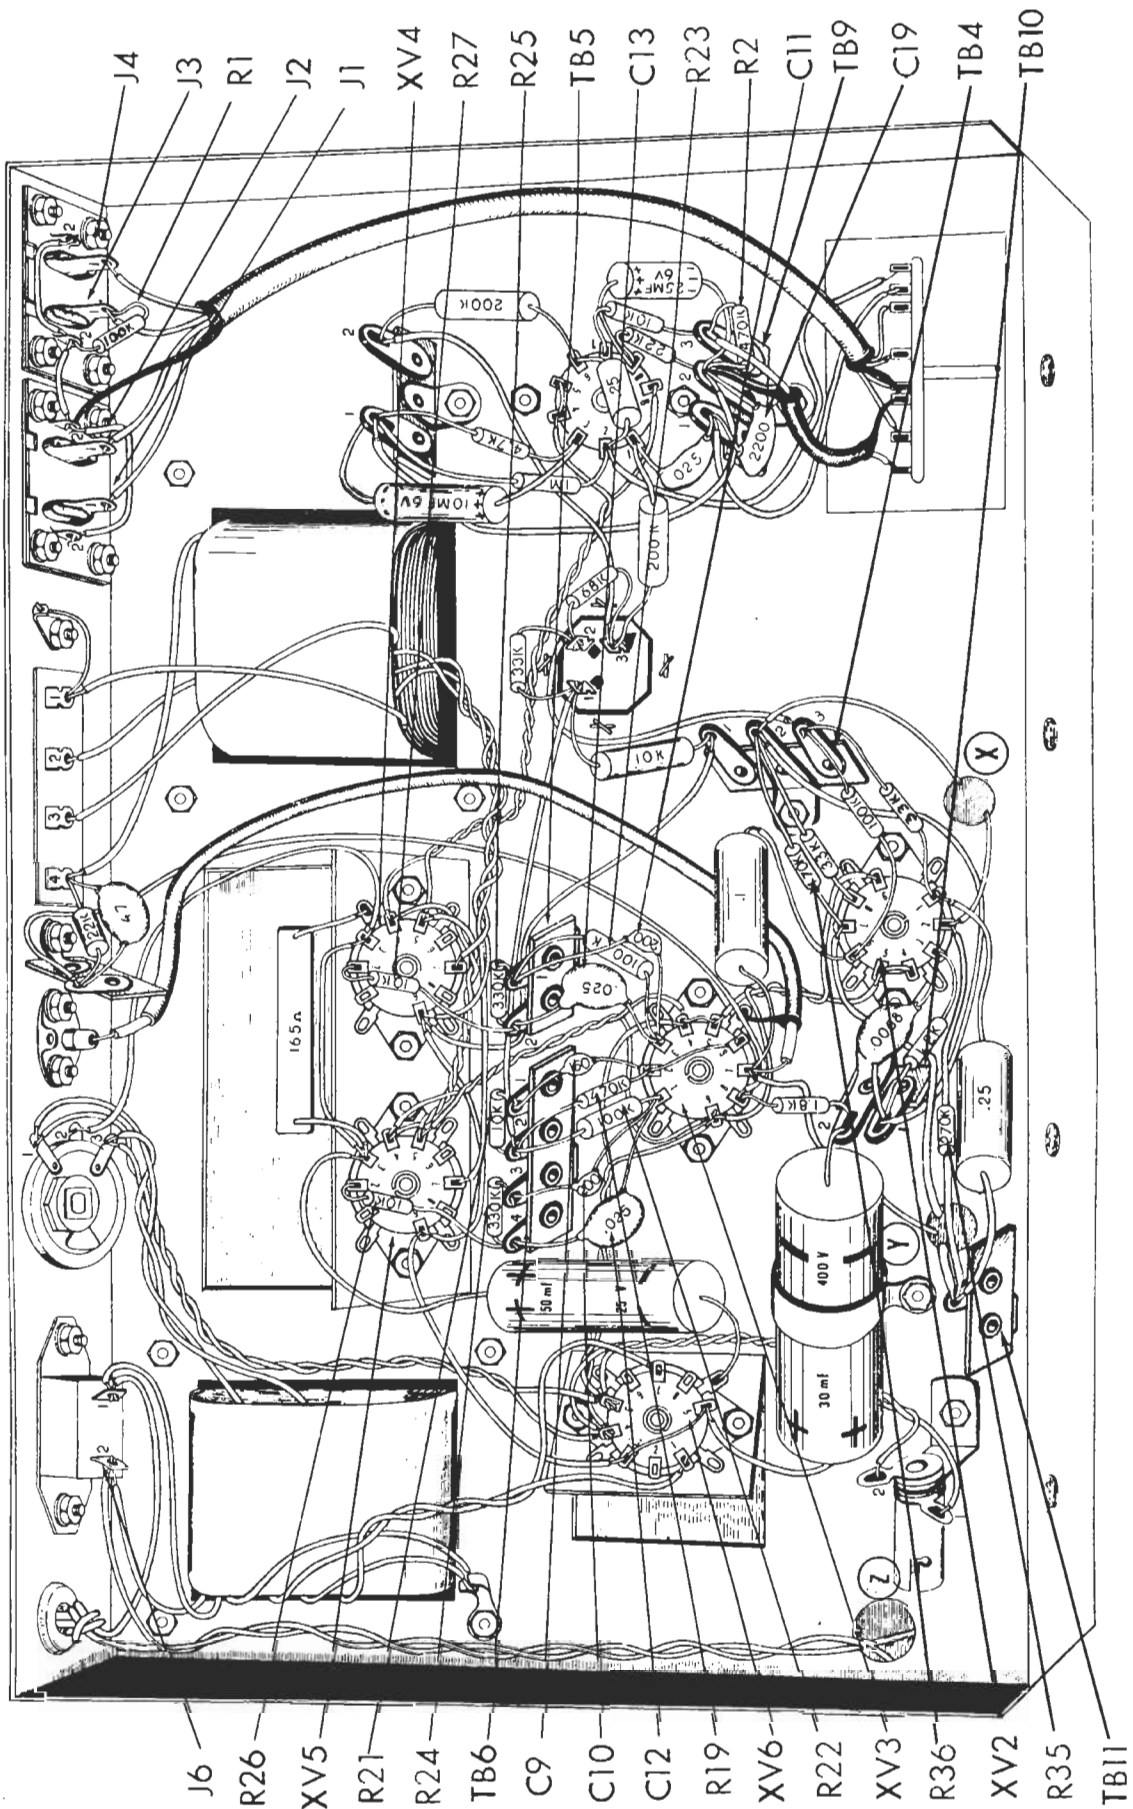

Fig. 6
1. () Fig. 6. Connect a 1" piece of bare wire from XV3-6 (S) to XV3-2 (C).
2. () Fig. 6. Connect a 100K Ω (brown, black, yellow, gold) 5% resistor, R23, from XV3-3 (C) to TB5-1 (C). Cut both leads to 3/4".
3. () Fig. 6. Connect a 200 mfd disc ceramic capacitor, C11, from XV3-3 (C) to TB5-1 (C). Cut both leads to 1".
4. () Fig. 6. Connect a .025 mfd disc ceramic capacitor, C13, from XV3-3 (S) to TB5-2 (C). Cut both leads to 3/4".
5. () Fig. 6. Connect a 470K Ω (yellow, violet, yellow, silver) resistor, R19, from XV3-2 (C) to TB6-2 (C). Cut both leads to 3/4".
6. () Fig. 6. Connect a 100K Ω (brown, black, yellow, gold) 5% resistor, R22, from XV3-1 (C) to TB6-2 (C). Cut both leads to 3/4".
7. () Fig. 6. Connect a 150 mfd disc ceramic capacitor, C9, from XV3-2 (S) to TB6-1 (C). Cut both leads to 3/4".
8. () Fig. 6. Connect a .025 mfd disc ceramic capacitor, C12, from XV3-1 (C) to TB6-4 (C). Cut both leads to 3/4".
9. () Fig. 6. Connect a 200 mfd disc ceramic capacitor, C10, from XV3-1 (S) to TB6-3 (C). Cut both leads to 3/4".
10. () Fig. 6. Connect a 330K Ω (orange, orange, yellow, silver) resistor, R25, from TB5-1 (S) to TB5-2 (C). Cut both leads to 1/2". Push the resistor down towards the chassis.
11. () Fig. 6. Connect a 330K Ω (orange, orange, yellow, silver) resistor, R24, from TB6-3 (S) to TB6-4 (C). Cut both leads to 1/2". Push the resistor down towards the chassis.
12. () Fig. 6. Connect a 10K Ω (brown, black, orange, silver) resistor, R21, from TB6-1 (S) to TB6-2 (S). Cut both leads to 1/2". Push the resistor down towards the chassis.
13. () Fig. 6. Connect a 10K Ω (brown, black, orange, silver) resistor, R26, from TB6-4 (S) to XV5-2 (S). Cut both leads to 3/4". Run resistor over pin 8 of XV5 without touching pin.
14. () Fig. 6. Connect a 10K Ω (brown, black, orange, silver) resistor, R27, from TB5-2 (S) to XV4-2 (S). Cut both leads to 3/4". Run resistor over pin 8 of XV4 without touching pin.
15. () Fig. 6. Run a 1 1/2" piece of bare wire covered with 1" of spaghetti from J1-2 (S) to J2-2 (C). Run an identical wire from J3-2 (C) to J4-2 (S). Run a 1" piece of bare wire covered with 1/2" of spaghetti from J3-2 (C) to J2-2 (C). Be careful not to touch any mounting screw or the bare chassis with the bare wire.
16. () Fig. 6. Connect a 100K Ω (brown, black, yellow, silver) resistor, R1, from J3-1 (C) to J3-2 (S).
17. () Fig. 6. Run the four conductor shielded cable from rectangular hole under S1 along the chassis as shown. Cut the outer insulation back 1 1/2". Unwrap the metal shield and twist the shielded strands. Cut the metal shield to 3/4" and the red and orange leads to 1". Connect the brown lead to J1-1 (S), the red lead to J2-1 (S), the orange lead to J3-1 (S) and the yellow lead to J4-1 (S). Connect shield to J2-2 (S).
18. () Fig. 6. Strip the outer insulation of the single conductor cable (passing through the rectangular hole under S1) back 3/4". Unwrap the shield strands and twist shield strands together. Strip the inner conductor back 1/4". Connect the inner conductor to TB9-3 (C) and the outer shield to TB9-2 (C).
19. () Fig. 6. Connect the yellow lead from the rectangular hole under S1 to XV1-2 (S) and the green lead from the same hole to TB9-1 (C).
20. () Fig. 6. Connect a 470K Ω (yellow, violet, yellow, silver) resistor, R2, from TB9-3 (S) to TB9-2 (C).
21. () Fig. 6. Connect a 2200 mfd disc capacitor, C19, from TB9-2 (S) to TB9-1 (S). Cut both leads to 3/4".
22. () Fig. 6. Connect the green lead from hole "X" to XV2-2 (C) and the black lead to TB4-2 (C).
23. () Fig. 6. Connect the green lead from hole "Y" to XV2-7 (C) and the yellow lead from hole "Y" to XV3-7 (S).
24. () Fig. 6. Push the line cord through the grommet near J6 at the rear of the chassis. Tie a knot on the inside of the chassis 8" from the tinned end of the line cord. Split the two leads apart until the knot. Cut one lead to 3" and connect to J6-1 (S).
25. () Fig. 6. Connect one end of a 10" brown lead to J6-2 (S). Twist this lead with the remaining lead from the line cord and dress as shown. Push both leads through hole "Z".
26. () Fig. 6. Connect the line cord lead from hole "Z" to S2-2 (S) and the brown lead to S2-1 (S). See Fig. 5.
27. () Fig. 6. Cut both leads on a 470K Ω (yellow, violet, yellow, silver) resistor, R36, to 3/4". Connect from XV2-7 (S) to TB4-2 (S).
28. () Fig. 6. Cut both leads on a 270K Ω (red, violet, yellow, silver) resistor, R35, to 1 1/4" and cover each with a 1" piece of spaghetti. Connect from TB11 (S) to XV2-2 (S).